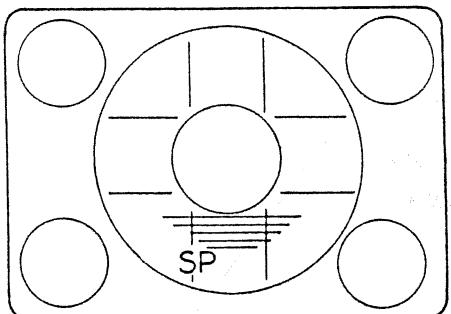

Fig. 4-103
#### 1) Display Position Adjustment (Figs. 4-103, 4-151)
3. Adjust CT801 so that remaining tape speed (SP) is positioned on the monitor screen as shown in Fig 4-103.